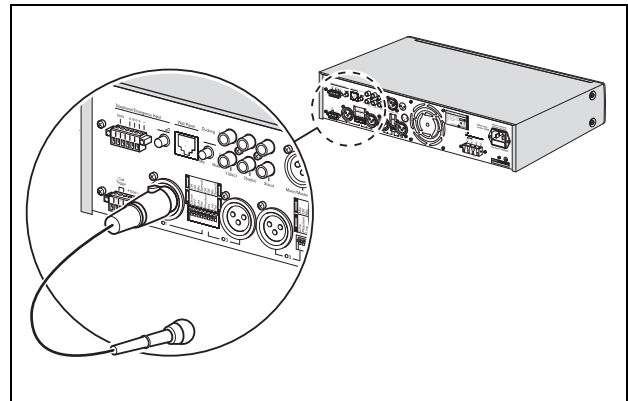

figure 4.1: XLR connector only
- XLR connector only. See figure 4.1.